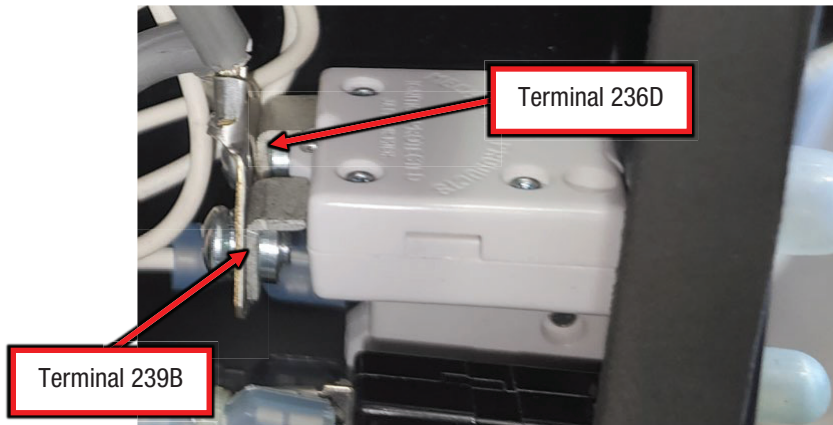

Figure F.3
A.3. Perform the static measurements in Test Table 1, refer to Figure F.3 for test point locations. NOTE: MEASUREMENTS ARE MADE ON CB5 WITH THE LEADS REMOVED.